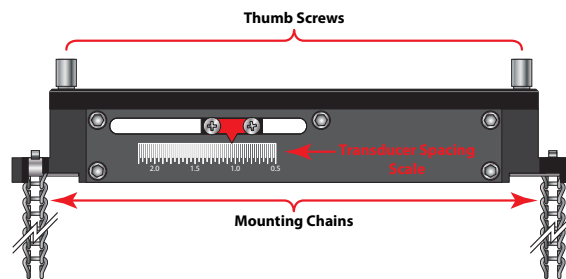

Figure 29: Transducer spacing scale for DTTSU transducers
1. Determine the transducer spacing required using the flow meter and the scale on the side of the DTTSU transducers, set the spacing. See *Figure 29*.